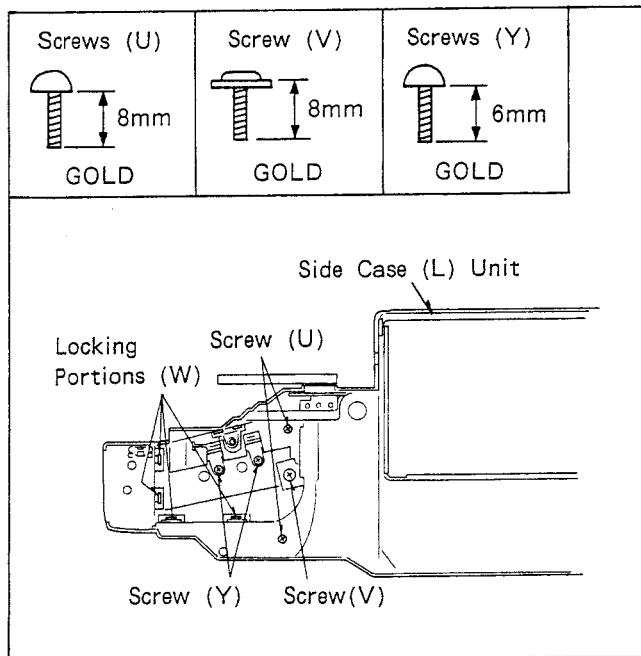

Fig. D10
- (3) Unlock the Locking Portion (X) and then lift the Start/Stop SW C.B.A. up slightly.
- (4) Remove 2 Screws (Y) shown in Fig. D10 and then remove the Zoom SW Unit.
- (5) Unlock 2 Locking Portions (Z) and then lift the Zoom Button up slightly.
- (6) Remove the Zoom SW C.B.A.